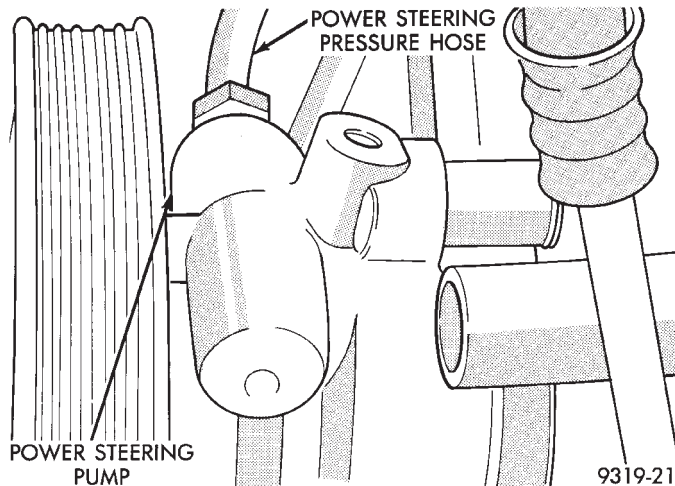

Fig. 18 Power Steering Pressure Hose
(7) Remove the power steering fluid pressure hose from power steering pump discharge fitting (Fig. 18).
(6) Install the power steering pressure hose in the outlet port of the power steering pump (Fig. 18). Tighten the power steering fluid pressure hose fitting to a torque of 34 N·m (25 ft. lbs.).
(7) Install serpentine accessory drive belt on engine. Refer to Group 7 Cooling, for required installation procedure and belt routing for the particular engine being serviced.
(8) Connect battery cable onto negative post on battery.